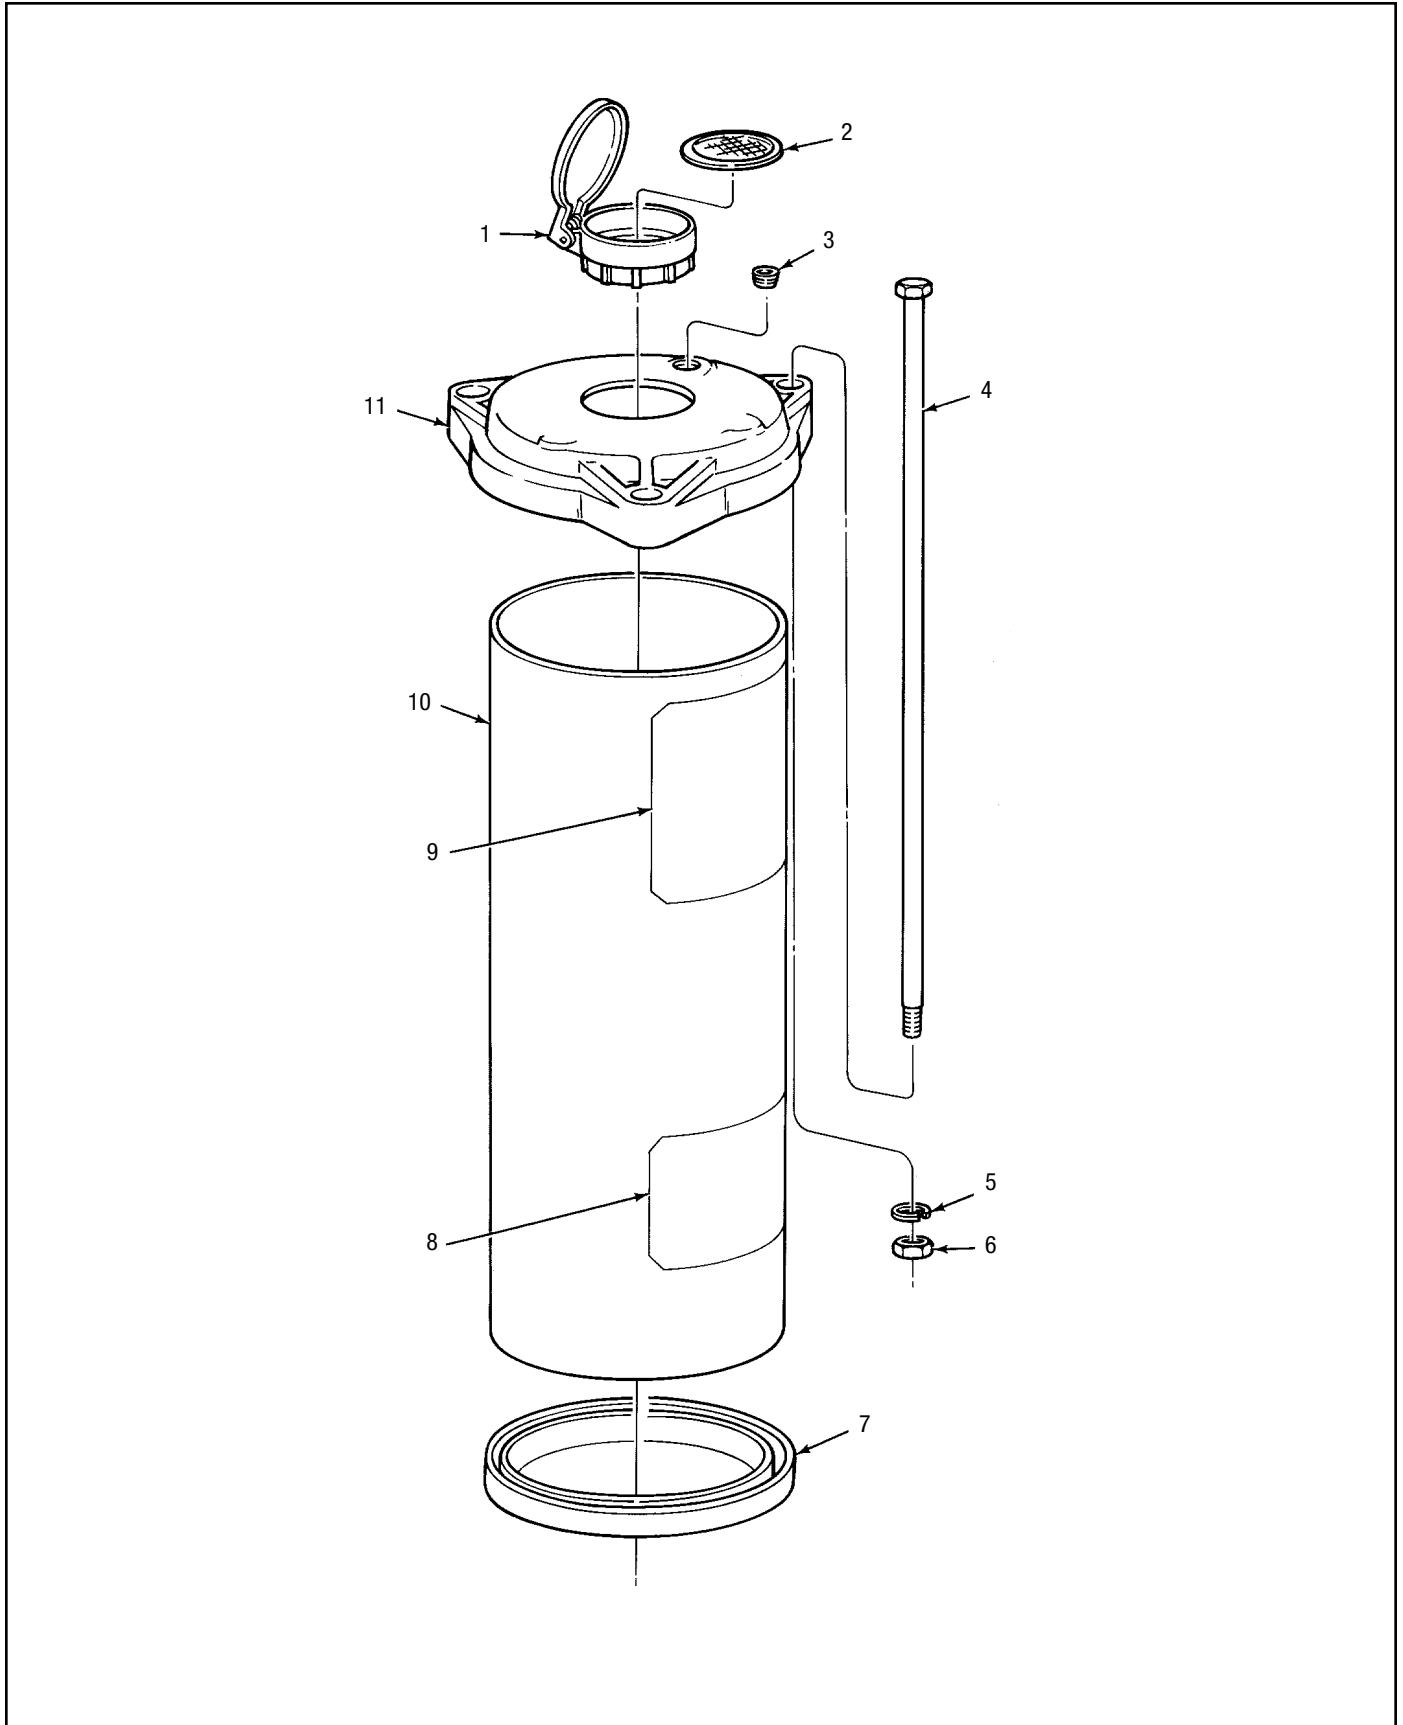

Figure 2-3. Oil Reservoir Assembly - Exploded View
2.4.1 General. Maintenance tips and disassembly and assembly procedures for oil reservoirs are discussed in Paragraphs 2.4.2, 2.4.3 and 2.4.4. An exploded view of a typical oil reservoir is shown in Figure 2-3 and should be referred to during the discussion.
- a. Visually check for oil leakage between reservoir tube (10, Figure 2-3) and pump. Leakage may indicate that the gasket (7) is defective or that nuts (6) are not tight. Torque nuts to 5 ft-lbs. If leakage continues, replace gasket (7). Check for cracks and nicks on reservoir tube (10). Also, examine reservoir tube (10) for distortions, such as an out-of round condition. Replace the tube as required.
- b. Visually check fill screen (2) in fill cup (1) to make sure it is not clogged. If necessary, remove the screen for cleaning.
2.4.3 Disassembly of Oil Reservoir. Figure 2-3 shows a typical oil reservoir but does not include other LUBEMASTER components which may be mounted to the reservoir. Disassembly of the reservoir may require that some of these components be removed. Level and blowout switches may or may not require removal, depending on the level of disassembly required. The electrical connections to the switches should be disconnected in order to remove various parts without restriction of movement by the electrical cord. Removal of these components is explained in other sections of the manual. Refer to the table of contents to find where the components are discussed.
- a. Install screen (2, Figure 2-3) in fill cup (1).
- b. Install new gasket (7) in pump.
- c. Position reservoir tube (10) on pump and position reservoir cap (11) on tube.
- d. Rotate reservoir cap (11) until tie rods (4) can be installed through holes in cap and pump. Heads of tie rods (4) must fit into the hexagonal depressions on the upper surface of the reservoir cap.
- e. Install lockwashers (5) and hex nuts (6) on tie rods (4). Torque nuts to 5 ft-lbs.
2.4.5 Oil Reservoir Parts Lists. Table 2-4 identifies the parts indexed in Figure 2-3.
TABLE 2-4 OIL RESERVOIR (FIGURE 2-3) PARTS LIST